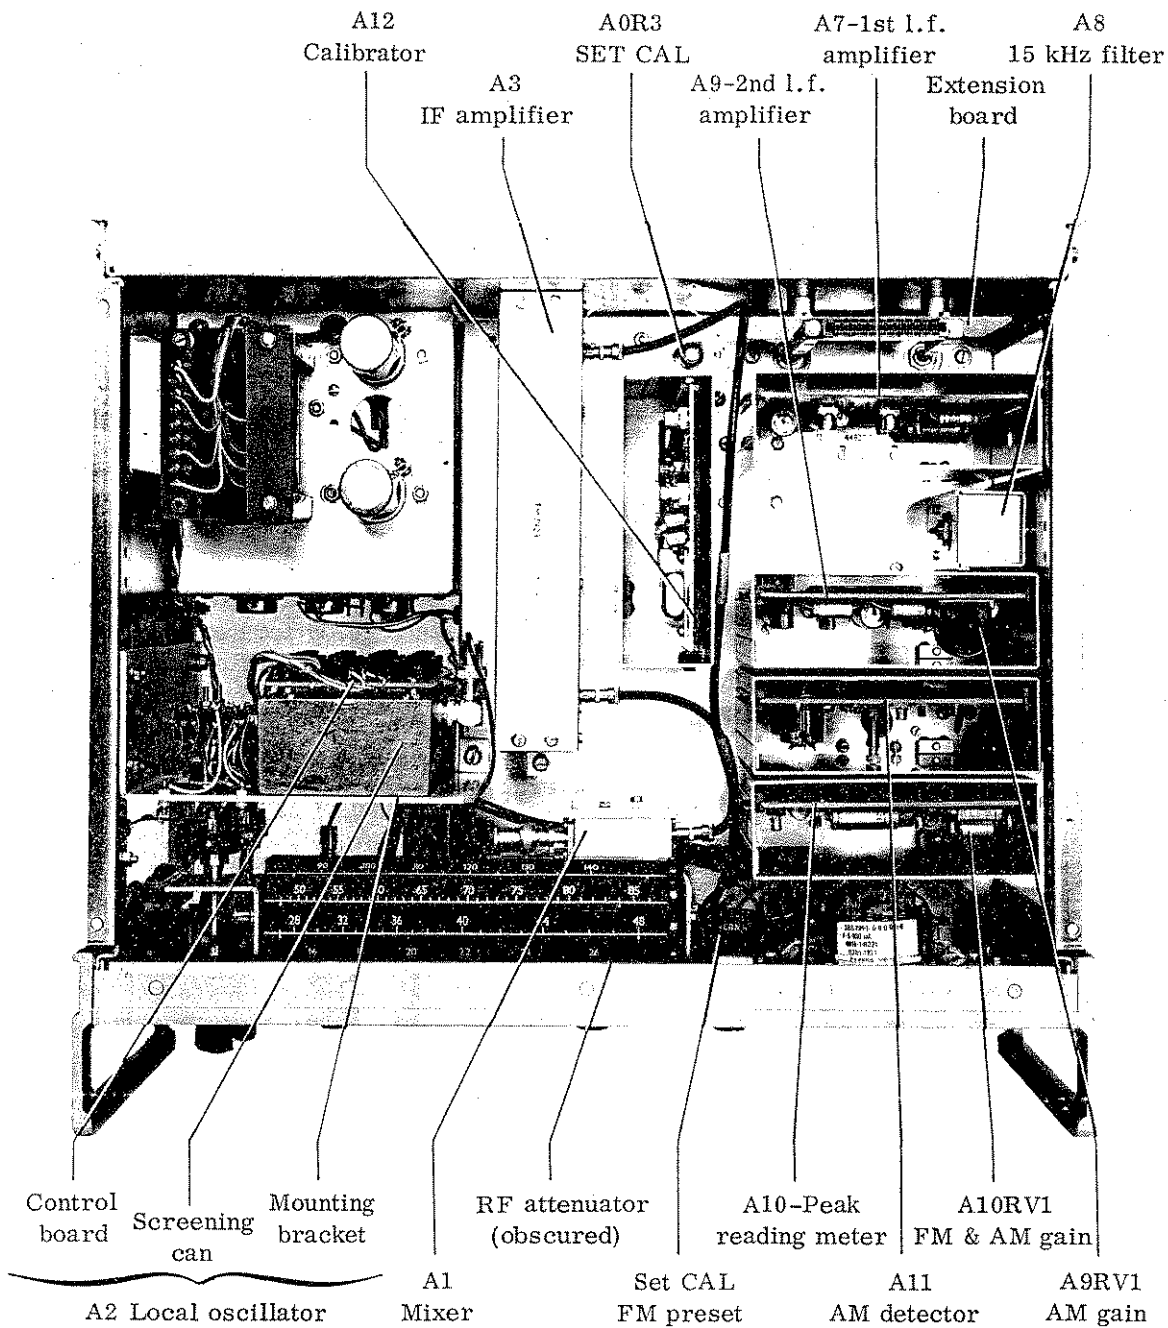

Fig. 4.1 Location of units (top)
Figs. 4.1 and 4.2 show the general location of all units above and below the chassis. Components may be identified by markings on the boards and chassis. For replacement of sub-assemblies and components, see Sects. 5.5 and 5.6.
- (4) If the modulation meter reading differs from 145 kHz when switched to either DEV+ or DEV-, adjust the SET CAL FM preset to give the best compromise accuracy between the two measurements. Then turn the FUNCTION switch to SET CAL and, without disturbing the SET CAL FM preset, bring the meter reading to the SET mark by adjusting the internal f.m. preset, A0R3 - see Fig. 4.1. If this has insufficient range select a new value for resistor A0R19.
- (5) This check can also be made at other deviations as shown in Table 4.2.
- (6) If the deviation errors show a general trend in one direction the presets A0R3, A0R4, A0R2 and A14RV1 should be adjusted to give the best compromise on their respective ranges. As A0R3 affects all ranges it should be adjusted first.